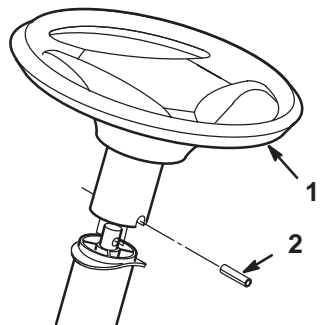

Figure 3
2. Slide the steering wheel over the steering shaft and line up the hole in the steering wheel with the hole in the shaft (Fig. 3).
5. Using a hammer, drive the spirol pin in until it is flush with the outside of the steering wheel (Fig. 3).